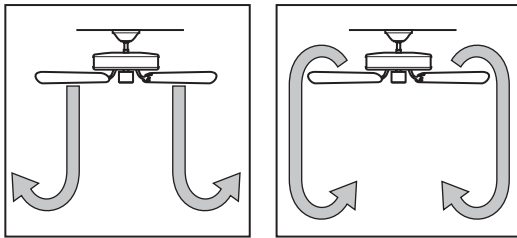

Figure 27 - Air flow patterns
3. Ceiling fans work best by blowing air downward (counterclockwise blade rotation) in warm weather to cool the room with a direct breeze. In winter, having the fan draw air upward (clockwise blade rotation) will distribute the warmer air trapped at the ceiling around the room without causing a draft. Refer to Figure 27.